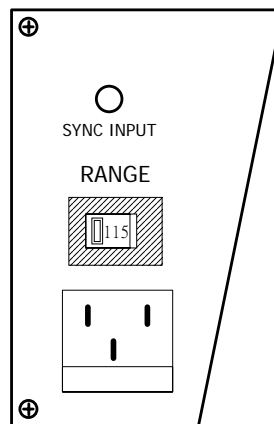

Figure 2-1 Setting Switch
2. Refer the drawing on the rear panel in Fig 2-1, set the switches to the proper voltage as described in the following: